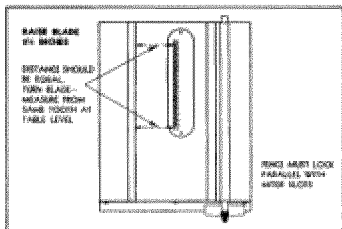

FIGURE 5
The Blade Must Be Parallel with the Miter Slots in the Table to Get a Straight Cut. (See Fig. 5).
2. Measure accurately from a raker tooth on the blade to an edge of either miter slot, as explained and shown in Fig. 5.